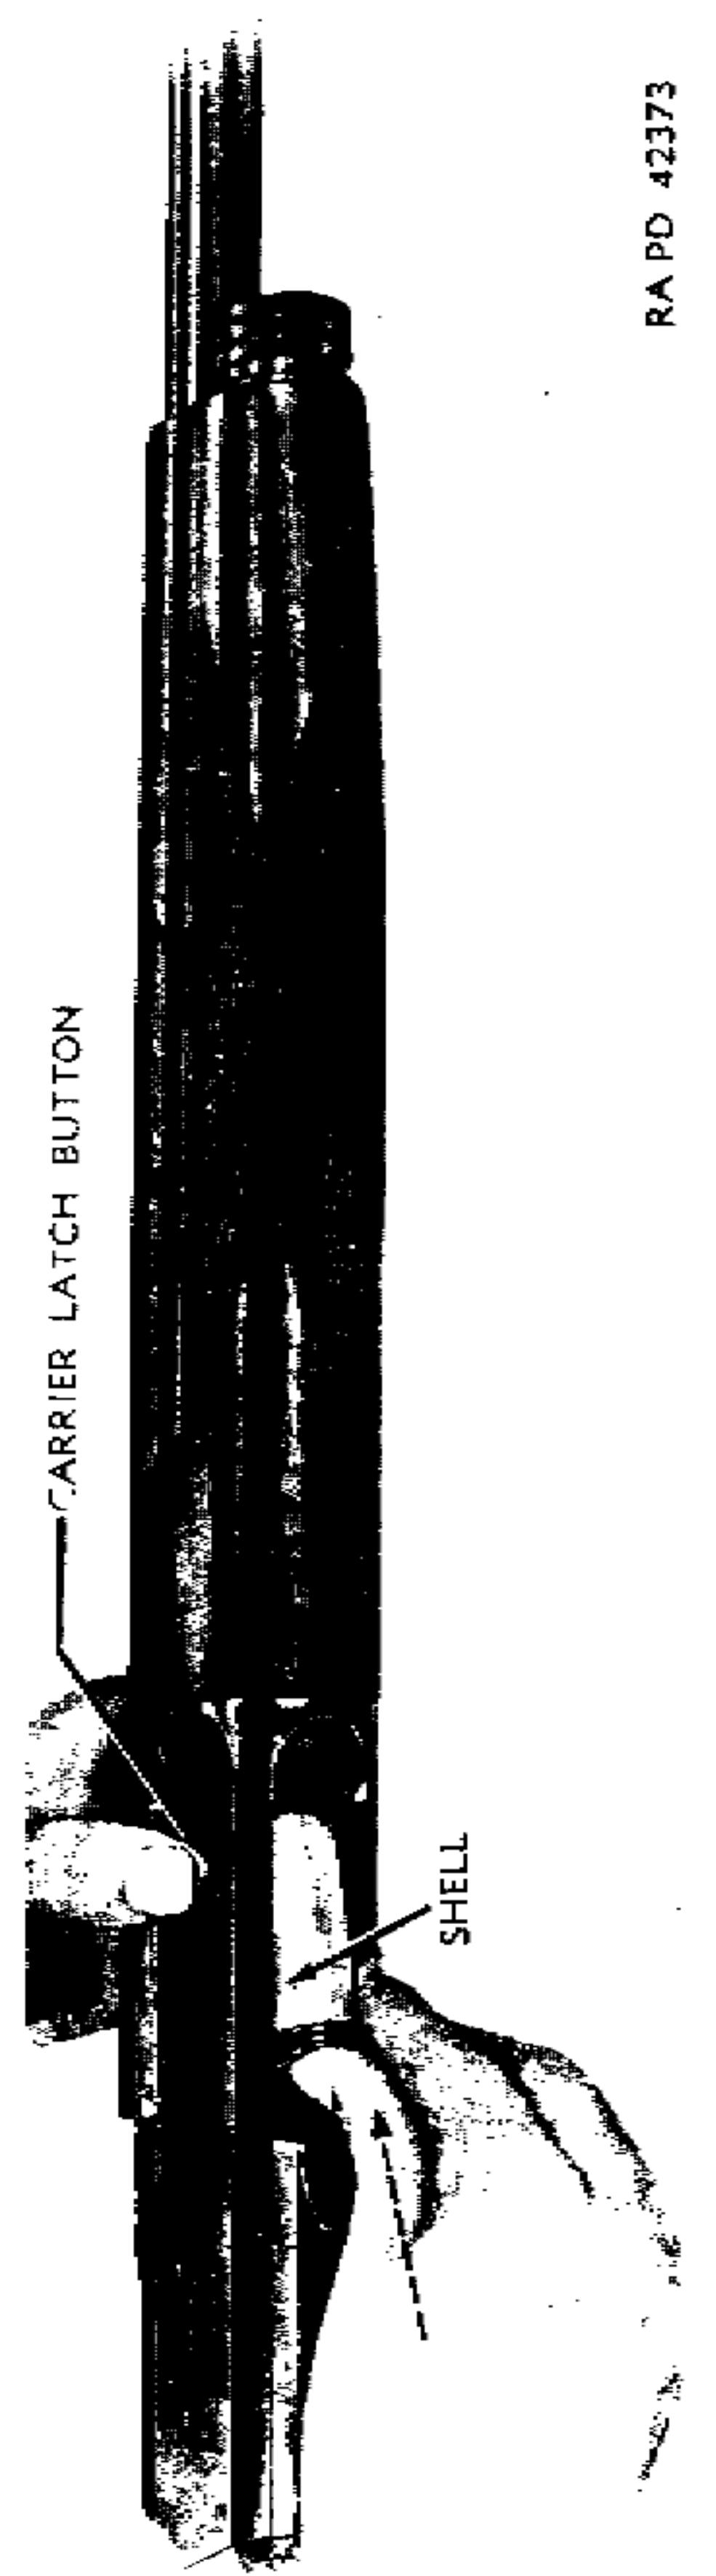

Figure 119—Loading Magazine While Depressing Carrier Latch Button—Savage Shotgun M720
(1) With breech bolt locked, press the carrier latch button fully inward to release the forward end of the carrier. Press shell nose down against carrier until it can be pushed forward against the magazine follower and into the rear of the magazine (fig. 119). As the base of the shell passes the end of carrier latch, pressure on latch button should be released slightly. Push the shell forward into the magazine until the base of the shell passes and is retained by the end of the carrier latch.
(2) Holding the carrier latch button depressed with the thumb, load another shell in the same manner, pressing it against the base of the first shell loaded, and push both shells forward into the magazine until the second shell is caught and held as above. When the carrier latch button is released, the rearmost shell will spring back and be held by the locking block latch which projects from the bottom of the bolt.